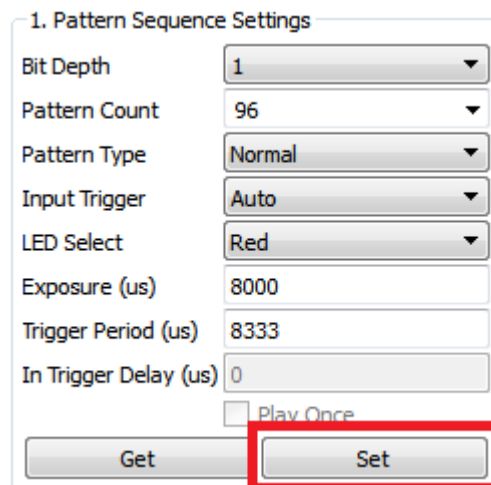

Figure 2-38. DLP LightCrafter GUI Pattern Sequence Settings Set Button
4. Click the Set button as shown in Figure 2-38.